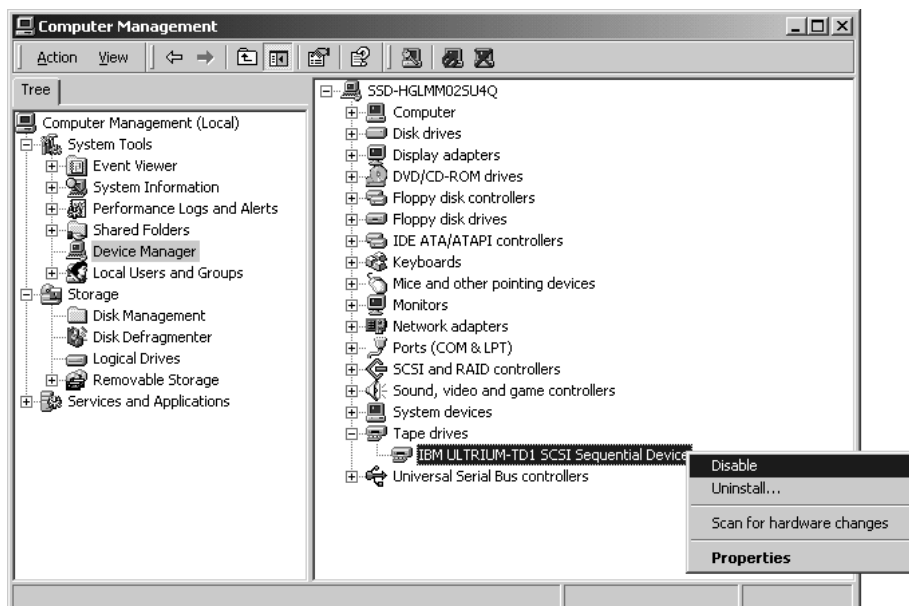

Figure 47. Changer and Drives Menu
2. A **Computer Management** window opens. Double-click **Device Manager** under the **System Tools** tree. Right-click the device you want to disable under either **Medium changers** or **Tape drives** trees. Click **Disable**. See Figure 47.